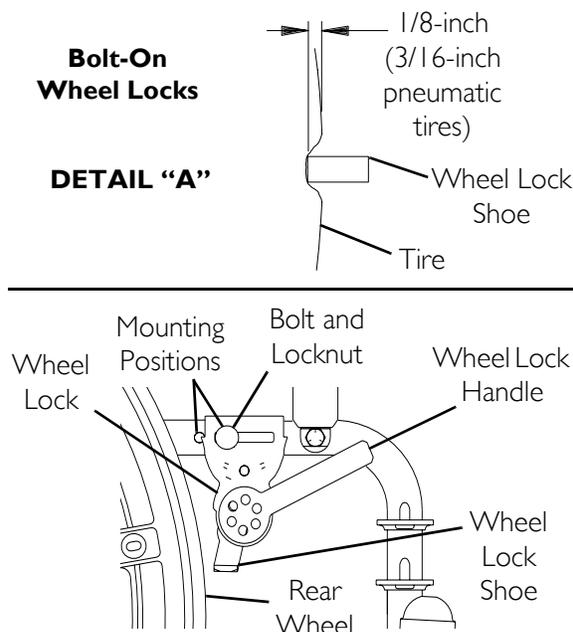

FIGURE 9.5 Adjusting Patient-Operated Wheel Locks
NOTE: For this procedure, refer to FIGURE 9.5.
6. Measure the distance the wheel lock is embedded into the tire as shown in Detail "A" of FIGURE 9.5.